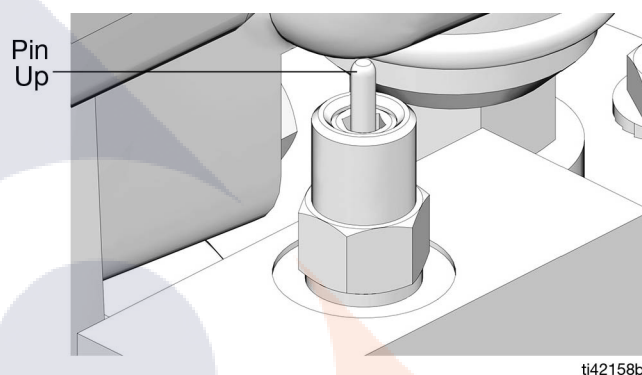

FIG. 3
4. Remove Dust Cover (T) from Fill Coupler (M).
5. Connect Supply Hose (J) between the Remote Filling Station Pump (H) and Fill Coupler (M) port marked with an "I".
6. Start Remote Filling Station Pump (H).
7. When Reservoir (E) is filled:
- the Remote Filling Station Pump (H) stalls (dead-heads),
- the Auto-Fill Shut Off pin pops up as shown in FIG. 3,